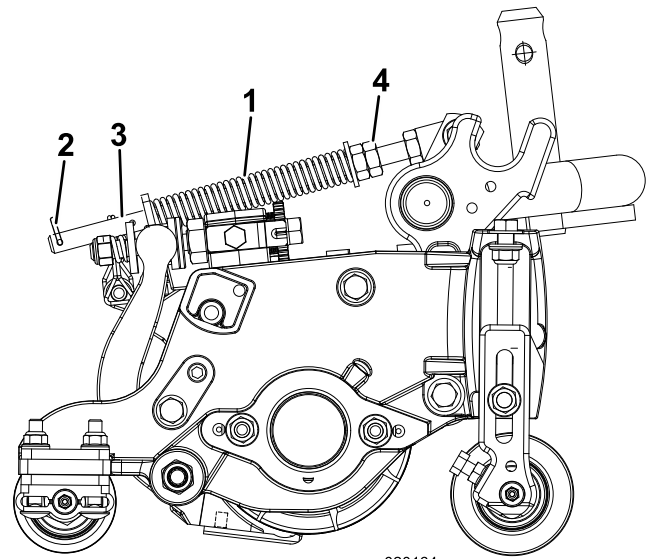

Figure 11
- 2. Tighten the hex nuts on the front end of the spring rod until the compressed length of the spring (Figure 11) is 12.7 cm (5 inches).
The turf compensation spring (Figure 11) transfers weight from the front to the rear roller. This helps to reduce a wave pattern in the turf, also known as marcelling or bobbing.
- 1. Make sure that the hairpin cotter is installed in the rear hole in the spring rod (Figure 11).